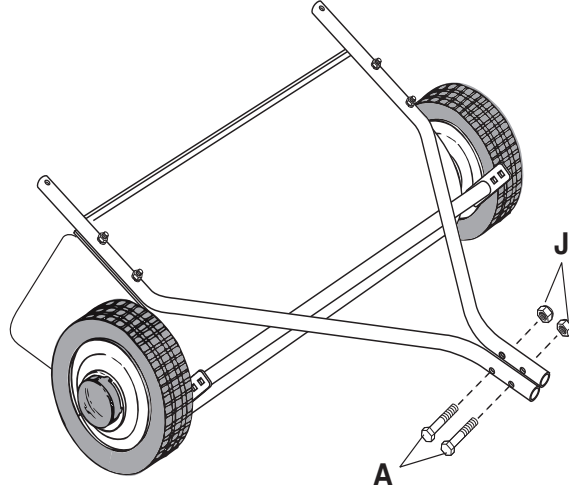

Figure 6
STEP 6: (SEE FIGURE 6)
- Secure the hitch tubes together using 5/16-18 x 2-1/2" hex bolts (A) and 5/16-18 nylock nuts (J). Hand-tighten.